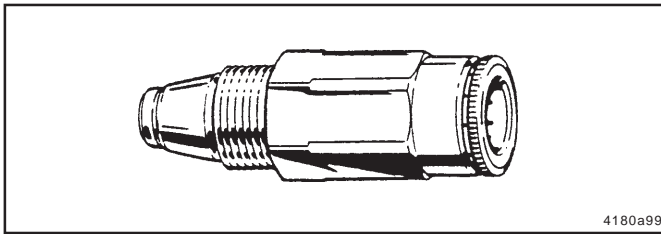

Fig. 3 - Check valve, push-in type
- Each outlet used must be equipped with an appropriate check valve see page 4, Fig.3.
- All pumps with the **back mouted SSV divider block**, starting from serial No. 998000100C/001 are assembled with outlet 2 plugged for direct feedback capability. To change the outlet 2 for bearing lubrication, replace closure plug with check valve (Fig. 3).